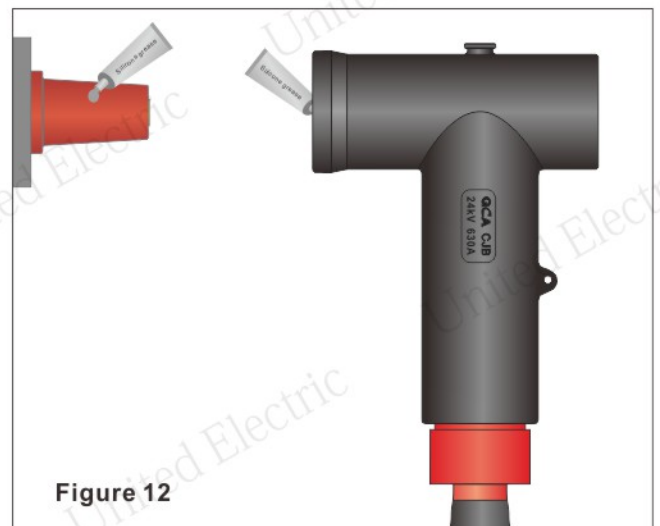

Figure 12
- Coat evenly a thin layer of silicone grease onto the connected bushing, and the inner surface of the front end of CJB20-630. (Figure 12)